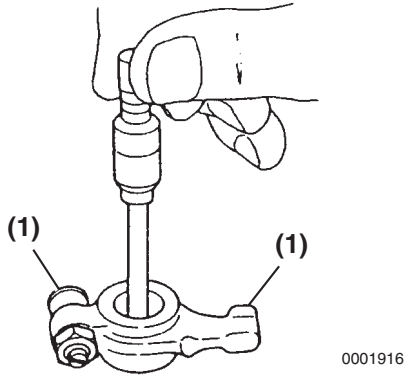

Figure 6-12
Use a telescoping gauge and micrometer to measure the inside diameter of all the rocker arm support brackets and the rocker arms (**Figure 6-12**). Record the measurements. See *Rocker Arm and Shaft on page 6-7 for the service limit*.
Inspect contact areas (**Figure 6-12, (1)**) for excessive wear or damage.